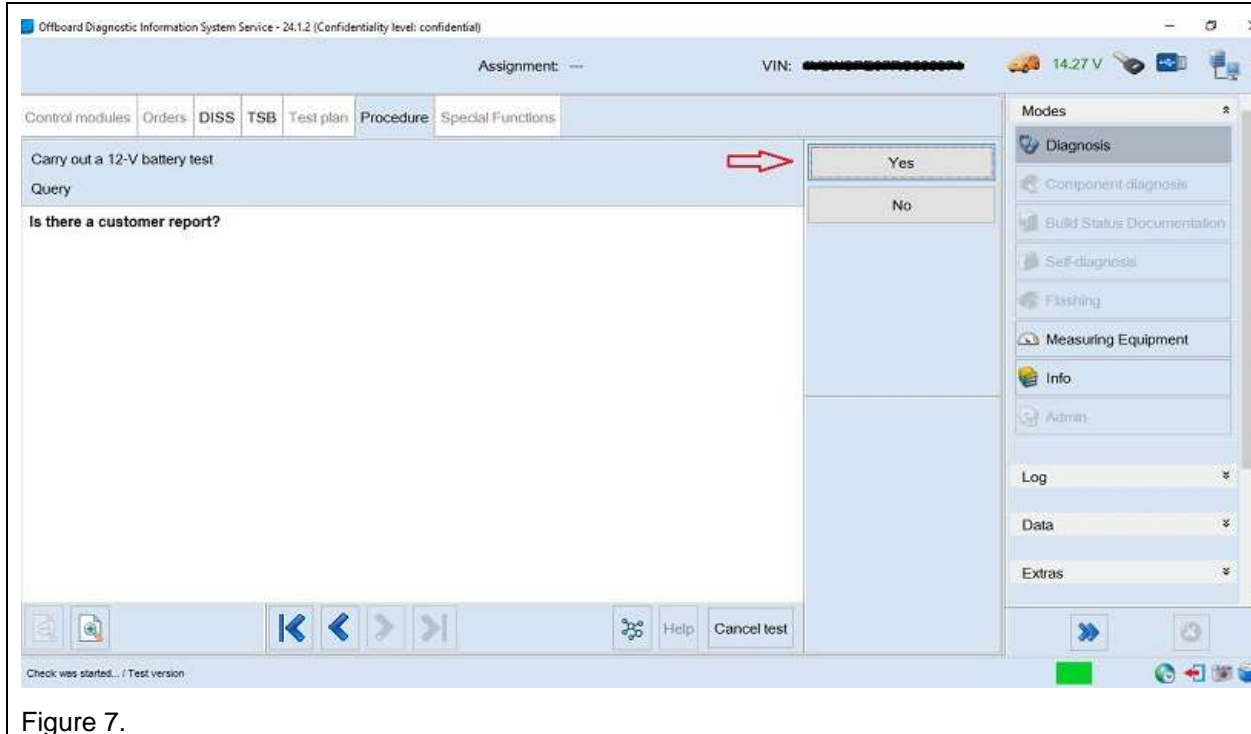

Figure 7.
7. Is this a customer report, select "Yes" (Figure 7).